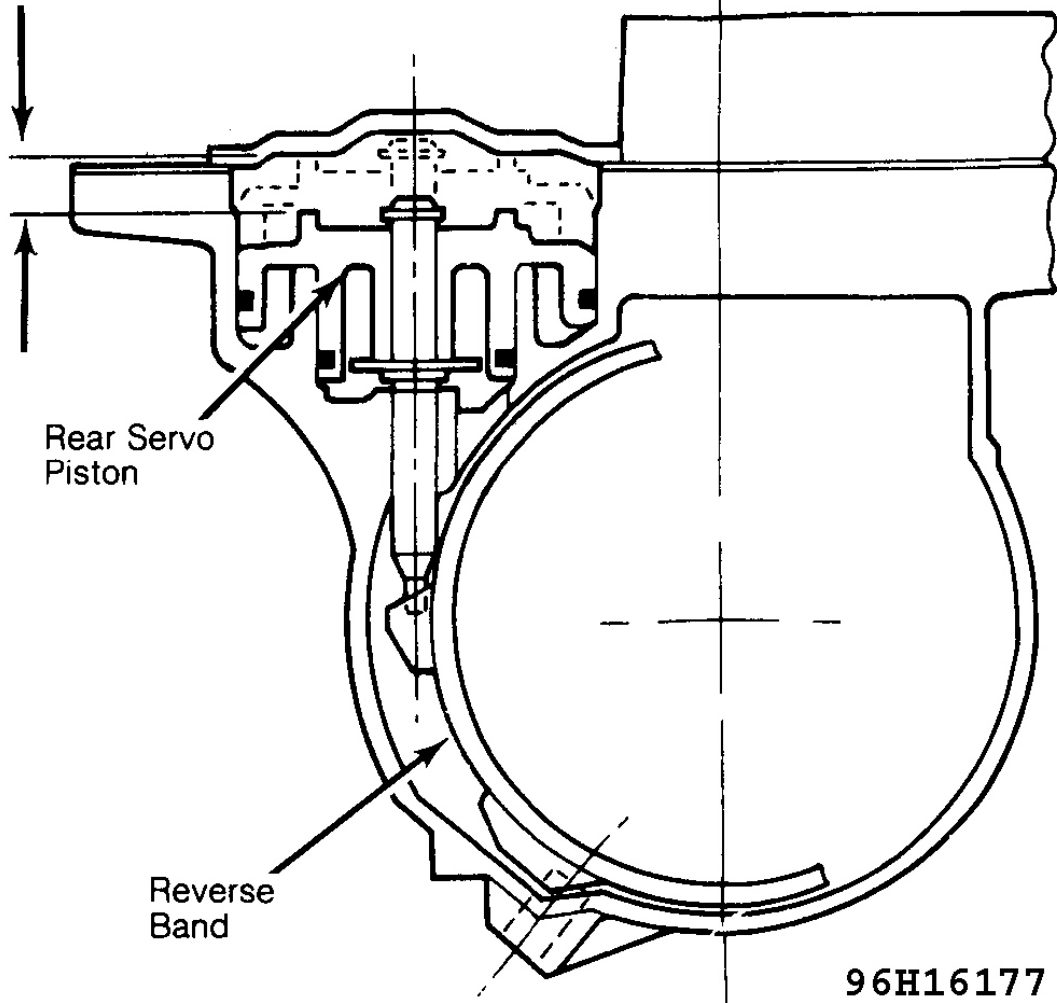

Fig. 46: Rear Servo Piston Travel Measurement
24. If travel is less than .120" (3.05 mm), use next shorter piston and rod. Install correct servo piston and rod. Recheck piston travel. See **Fig. 46**. Remove servo adjusting tool and additional reverse servo spring (only used for checking piston travel).